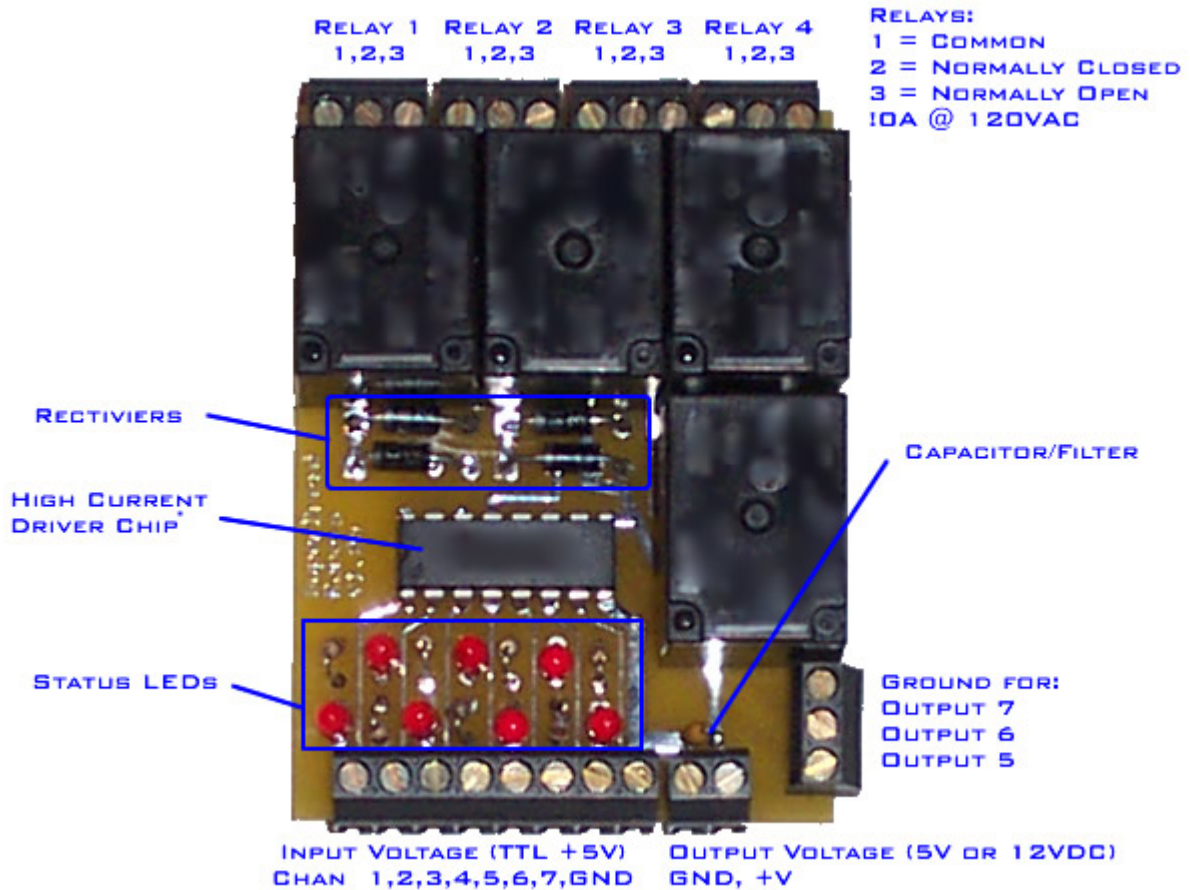

Figure 1: TTL High Current Driver with 4 Power Relays
1. Start by laying the board out in front of you. The Label should be on the middle left topside. Refer to Figure 1.
2. Insert all the LEDs as shown in Figure 1 in a staggered location. The long leg of the LED should be towards the TTL Input edge of the board (they will not work if put in the other way).
3. Insert all the resistors as shown in Figure 1. The orientation of the resistor is not important.
4. Insert the Diodes. Orientation of the Diodes is important. It will short the circuit if put in the wrong way. The lead that comes out of the side of the diode with a line on it should go in the square pad hole (face towards the left edge of the board as shown in Figure 1).
5. Insert the capacitor as shown in Figure 1. Orientation is not important.
6. Insert the Relays as shown in Figure 1. All the relays should be placed in their locations at the same time before soldering. Push the relays down so they are all flat and start soldering the terminals, checking to make sure the relays stay flat.
7. Install the Screw Terminals (if provided) as shown in Figure 1.
8. Insert the high current driver IC. The orientation is important. The chip will be shorted and will not work if put in wrong. Pin one goes in the square pad hole such that the notch on the chip is closest to the label on the board. Refer to Figure 1.
9. Attach either 12VDC or 5VDC to the Output Voltage using the polarity shown in Figure 1. Turn on the power, no sparks or smoke should appear at this time.